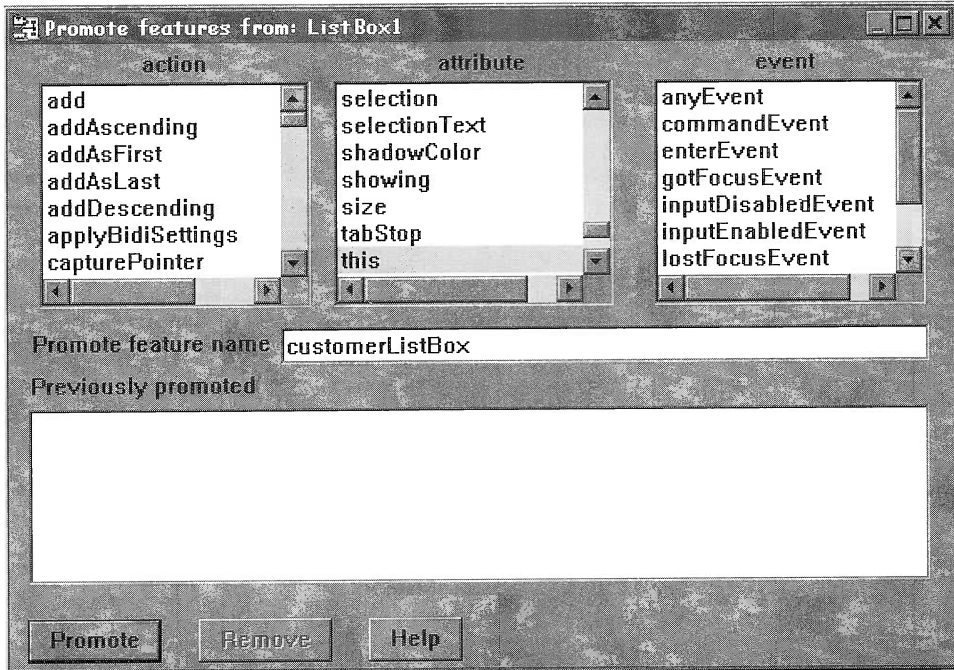

Figure 165: Promoting the this attribute of the list box
- ☐ Select the **this** attribute of the list box to promote as shown in Figure 165.